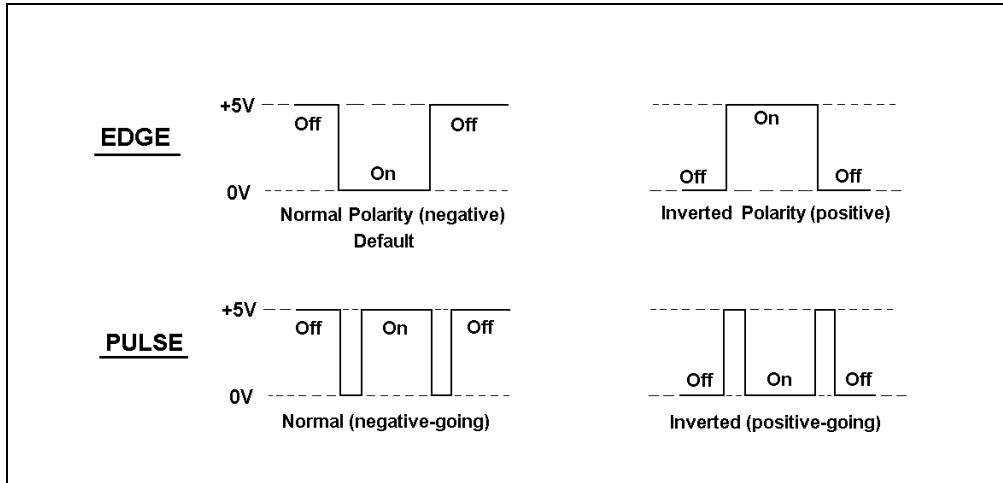

Figure D-4. TTL and Relay Input Signal Modes
- *Normal Edge*: In normal edge operation, the negative (falling) edge of a signal turns on the function and the positive (rising) edge turns off the function (see Figure D-4).